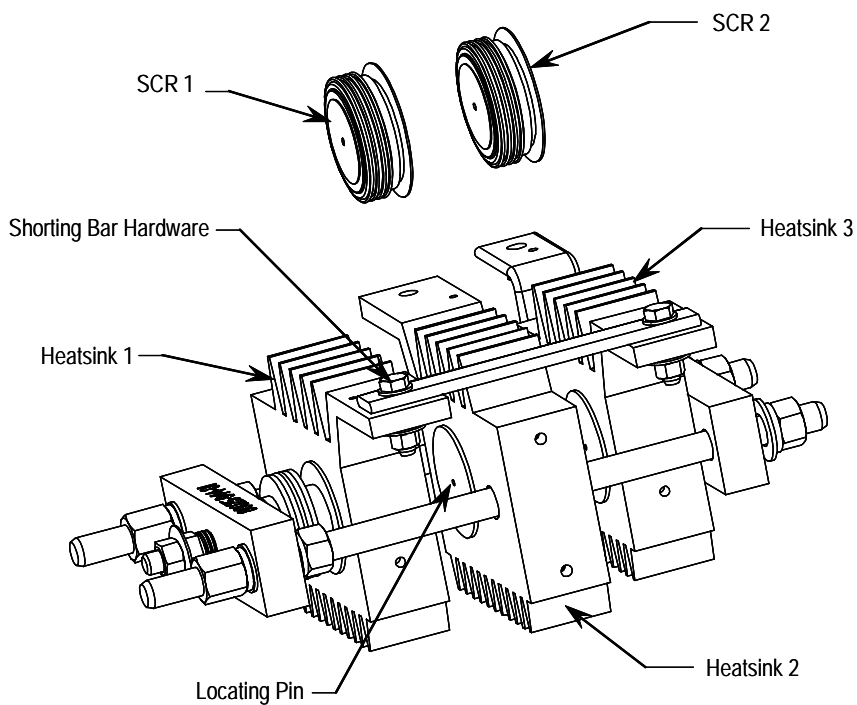

Figure 9.7 – Removal of SCR (1000 to 2400 V, 180/360 A)
9. Place the module on a flat surface (see Fig. 9.7, 9.10 and 9.14). When tilting the module, ensure that wires are not damaged.
5. Place the new SCRs in position starting from the top and pushing the heat sinks together as you proceed down the stack. Make sure the SCRs are positioned and oriented properly. Refer to Figures 9.7, 9.10, and 9.16.